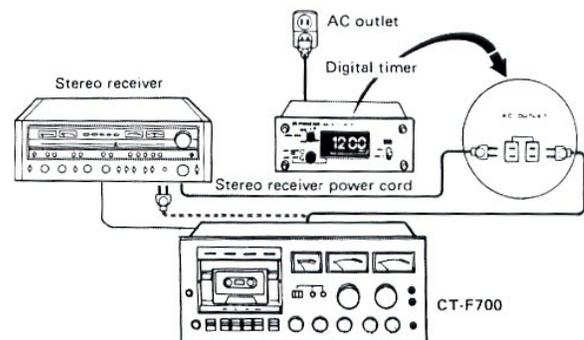

Fig. 12
1. As shown in Fig. 12 connect the CT-F700's power cord to the timer. Also connect the receiver's power cord (or tuner, amplifier) so that the receiver's on/off functions are controlled by the timer.
3. As shown in Fig. 12 set the CT-F700 PAUSE lever to the depressed position.
As shown in Fig. 12 connect the CT-F700 and set the timer so that the power is switched on at the desired time. Follow the steps (1) to (5) in "PLAYBACK" on page 11 and set the PAUSE lever to the depressed position. Depress the play lever and then set the playback level, the tape deck will play back the tape at the desired time.